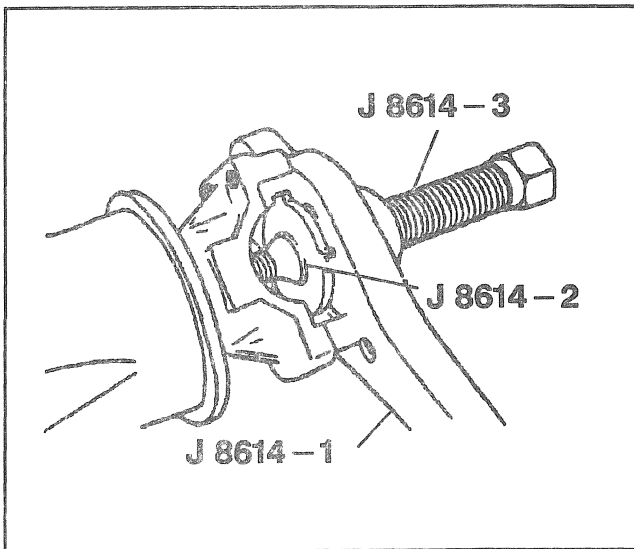
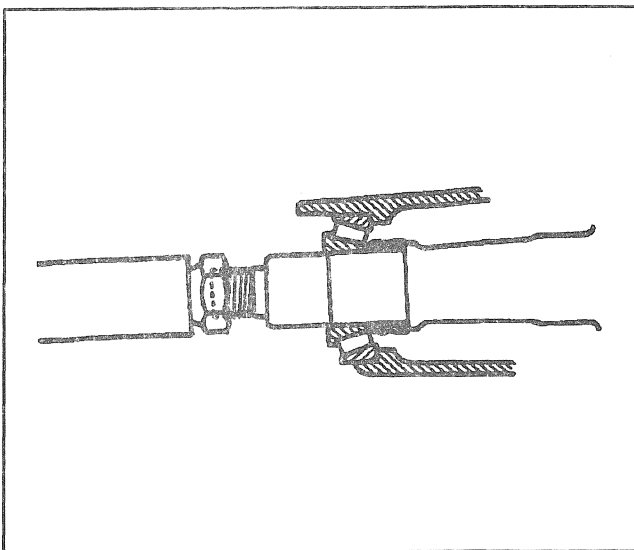

Figure 7—Removing the Pinion Flange
Figure 8—Removing the Drive Pinion
19. Pinion flange using J 8614-01 (Figure 7).
20. Pinion (15) from the axle housing.
- B. Replace the axle housing cover (25) with two bolts (24) to keep the pinion from falling.
- C. Drive the pinion out of the housing with a hammer and soft drift (Figure 8).
- Remove the cover (25) and the pinion (15).
21. Collapsible spacer (11) from the pinion.
22. Outer seal (9) and outer pinion bearing (10).